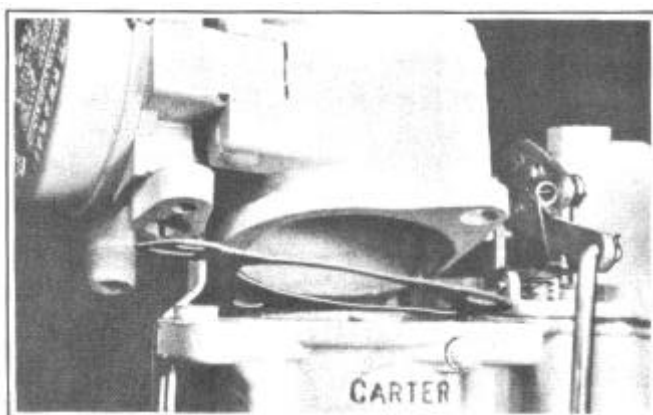

FIGURE 10
2. Remove air horn and climatic control assembly, Figure 10, and lift off air horn gasket.